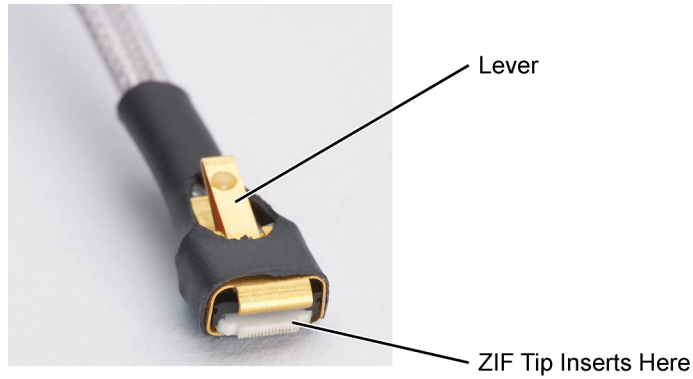

Figure 27 Probe Head with Location of the Lever
- 2 Form the coaxial cables to bring the probe head near the tip. Press the lever down on the ZIF probe head (see **Figure 27**) and slide the probe head onto the tip. Pressing on this lever removes the clamping force of the connector and enables you to insert or remove ZIF tips.